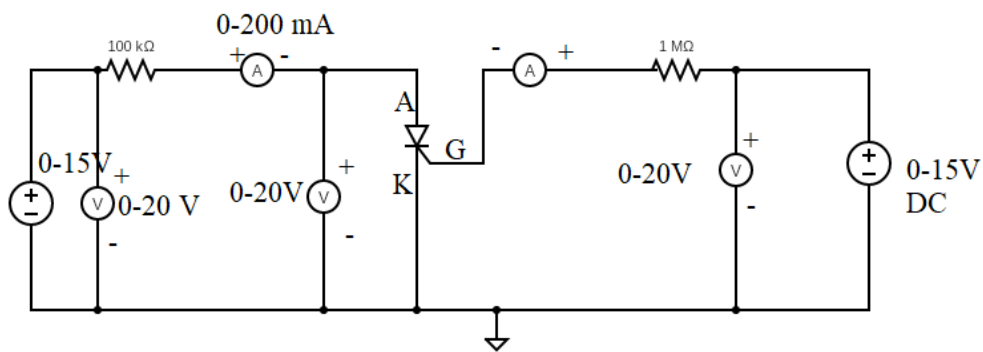

Figure 12.3: Circuit Diagram for SCR Characteristics
1. Connection is made as per given figure 12.3